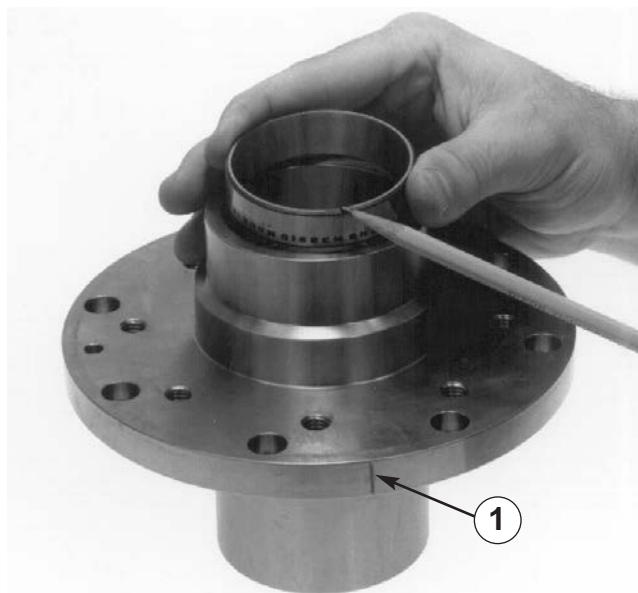

Figure 38 — Align high point on bearing cup with pencil mark on housing. (1) Pencil Mark
2. **Press bearing cups into each end of impeller bearing housing and seat securely.** Align high points on bearing cups (small burnish mark on lip of cup) with a pencil mark on housing (Figure 38).